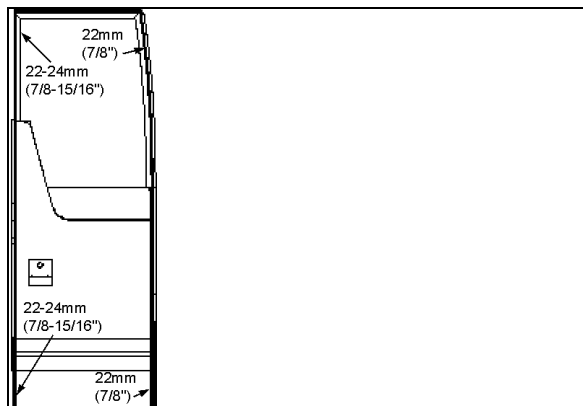

FIGURE 33: SEAL COMPRESSION ADJUSTMENT
2. From the outside of vehicle, insert a straight edge in the gap along the door outside perimeter. Measure the distance between the door frame and the door outside surface at the door four corners (refer to Figure 33).